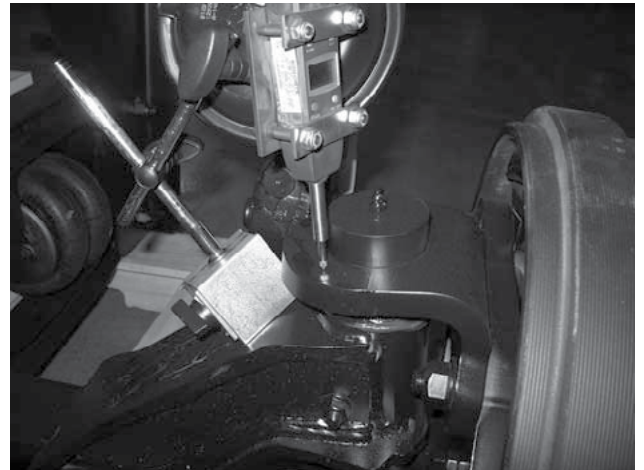

Figure 16. Vertical End Play Checking
6. Place a jack and a wood block (with a hole that allows clearance for the lower kingpin grease fitting) under the lower kingpin grease cap area. (See Figure 16)